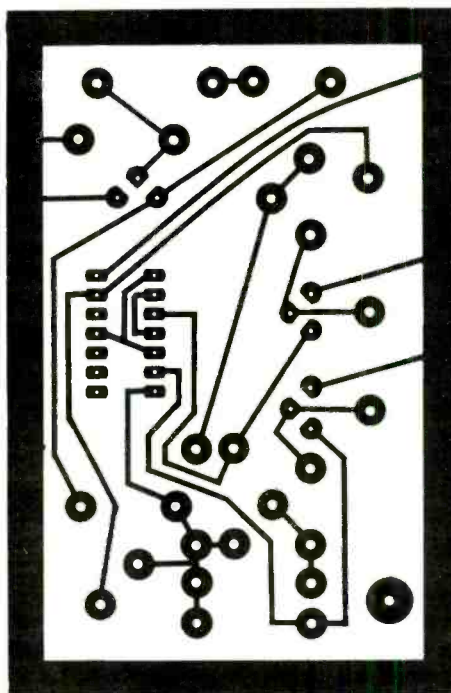

FIG. 6—FOIL PATTERN for the time and gating module. Point-to-point wiring may be used.
**1. Rf voltmeter.** A vom or vtm can serve as an rf voltmeter when you use the diode detector arrangement shown in Fig. 6. The entire unit can be
**FIG. 6—A DIRECT/X10 ATTENUATOR** probe for rf measurements. This diode rf probe provides a dc output voltage in relation to the peak applied rf voltage. Diode D may be chosen for the highest frequency to be measured. With D a 1N34, the probe works to about 30 MHz. Max input voltage: 30 volts direct; 300 volts x10.